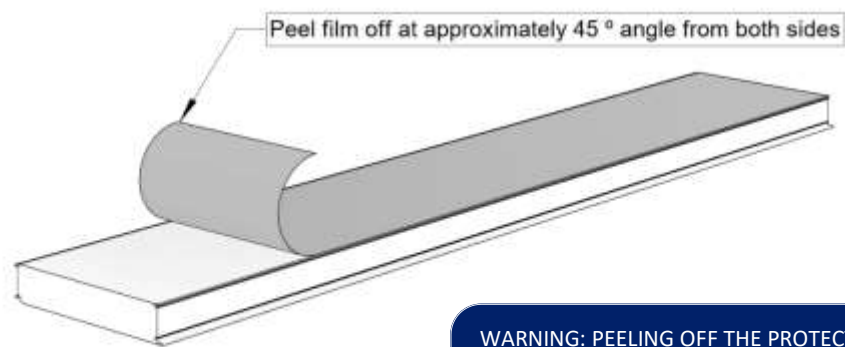

Fig. 6.1
- 6.3 Loosen film along the male edge and peel it off and down at approximately 45° angle from both sides of panels (see Fig. 6.1).